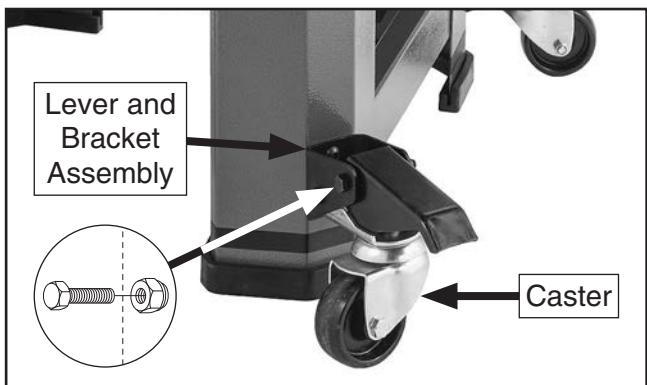

Figure 12. Caster installed on front right leg.
2. Install caster on each lever and bracket assembly with M8-1.25 x 65 hex bolt and M8-1.25 lock nut (see **Figure 12**).